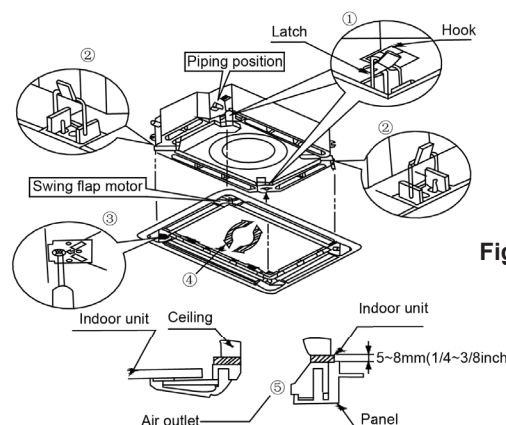

Fig.8
- (2) Place the panel at the unit, and latch the hooks beside and opposite the swing flap motor.
- (3) Latch other two hooks.
- (4) Tighten four hexagonal screws under the latches about 15mm.
- (5) Adjust the panel along the direction indicated by the arrow as shown in Fig.8.
- (6) Tighten the screws until the thickness of the sealing material between the panel and the indoor unit reduces to 5-8mm.